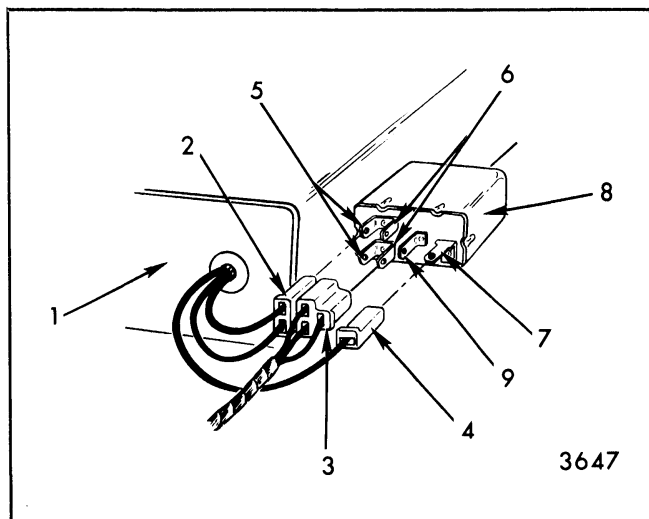

Fig. 10-35-Seat Adjuster Motor Control Relay
1. Disengage triple connector body from seat motor relay terminal (Fig. 10-35).
1. Disconnect three motor leads (double and single connector) from relay assembly. These are wires leading from the motor to relay (Fig. 10-35).